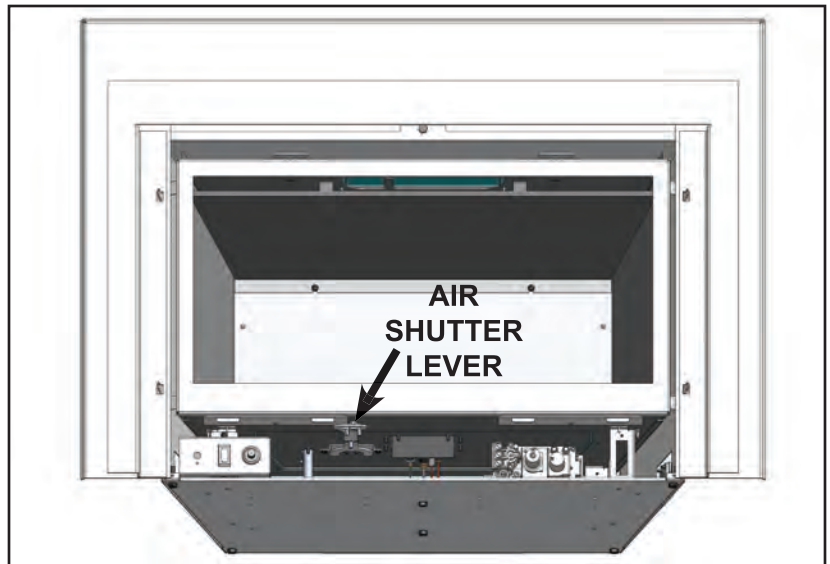

Fig.6
1. Remove the safety screen trim (see **SAFETY SCREEN TRIM REMOVAL**). The air shutter adjustment lever is left of the valve. (Fig.6)